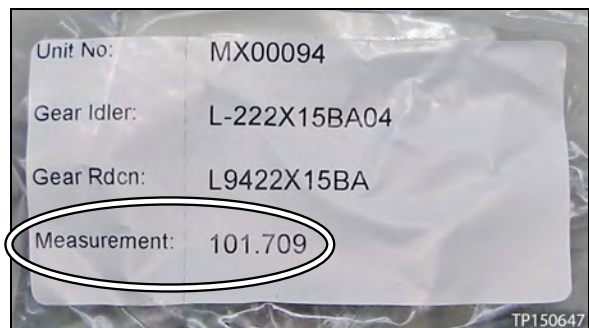

Figure 23
- The measurement value is located on a label attached to the reduction gear's packaging (see Figure 23).